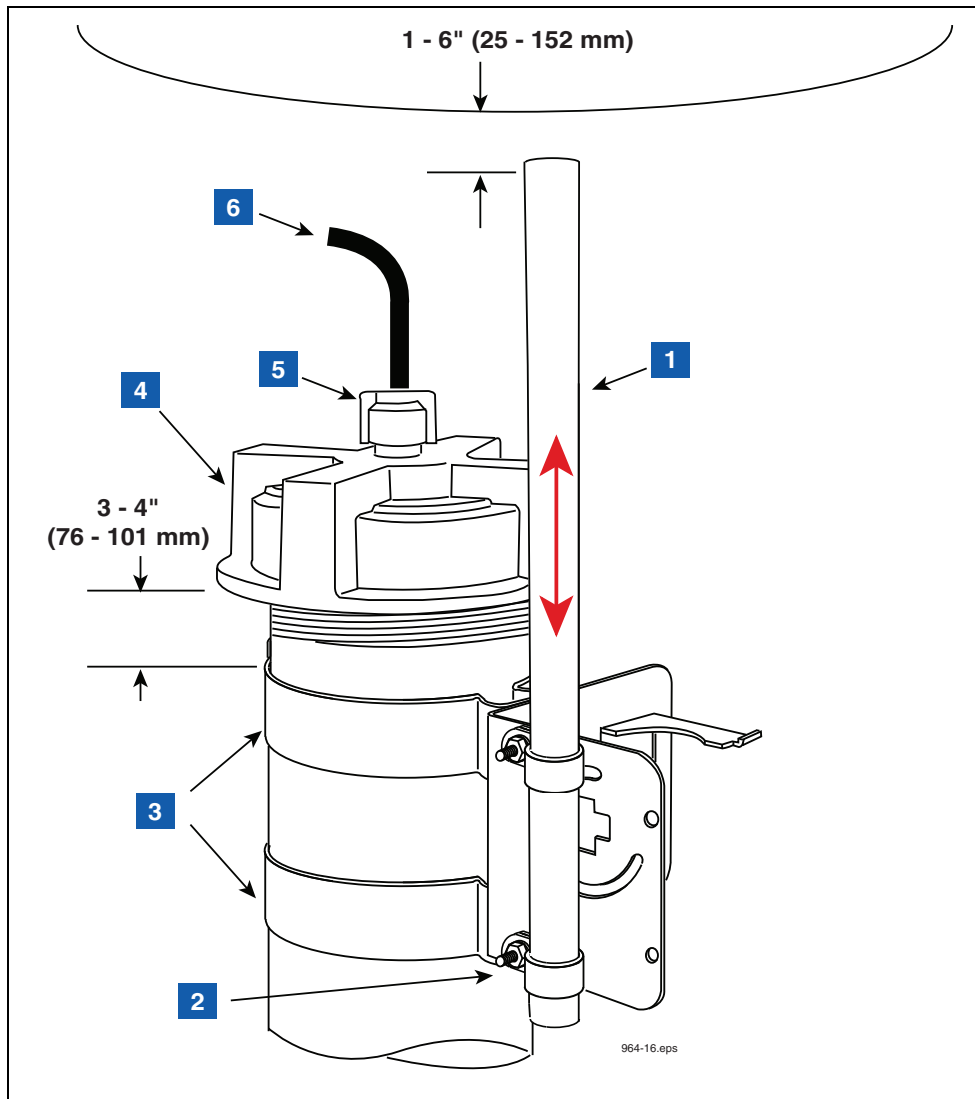

Figure 16. Installing Transmitter Support Conduit
- Loosen the probe cable cord grip and remove the riser cap. Thread the probe cable through the two conduit hangers as you slide the hanger/bracket assembly onto the riser. Adjust the conduit hangers until the top one is 3 - 4 inches below the top of the riser as shown in Figure 16. Tighten the two conduit hanger bolts to secure the bracket on the riser. Loosen the cord grip in the top of the riser cap and push the probe cable up through the cord grip and replace the riser cap and tighten the probe cable cord grip. Insert a piece of 1/2-inch conduit or ducting into the loosened conduit clamps in the battery pack support bracket. The conduit can be positioned below the manhole cover from 1 to 6 inches, as required for best signal reception. Place a mark on the conduit above the top clamp. Remove the conduit to a non-hazardous location and cut off the excess length. Push the conduit down through the two clamps until the top clamp is below the mark on the conduit and tighten the two clamps.
LEGEND FOR NUMBERED BOXES IN Figure 16